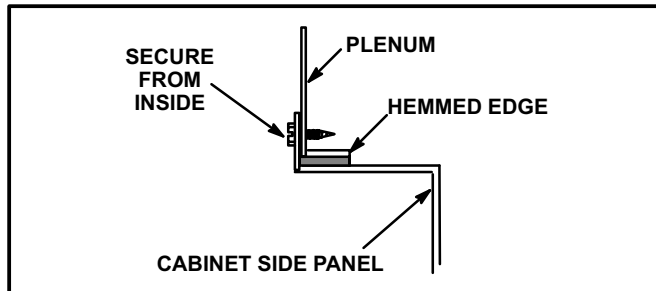

FIGURE 13
- 3 - In cupboard installations, it may be necessary to install sheet metal screws from the inside. If this is the case, make plenum with a removable front to install screws as shown in figure 13.